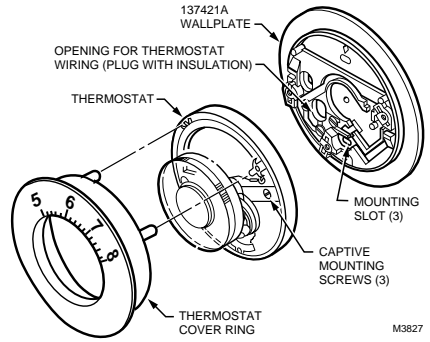

Fig. 7. Mounting thermostat and 137421A Wallplate.
3. Align the three captive mounting screws in the thermostat with the posts on the wallplate. See Fig. 7. These captive screws complete the electrical connections to the thermostat. Tighten the three screws. **Do not overtighten screws** or damage to the wallplate posts can result.